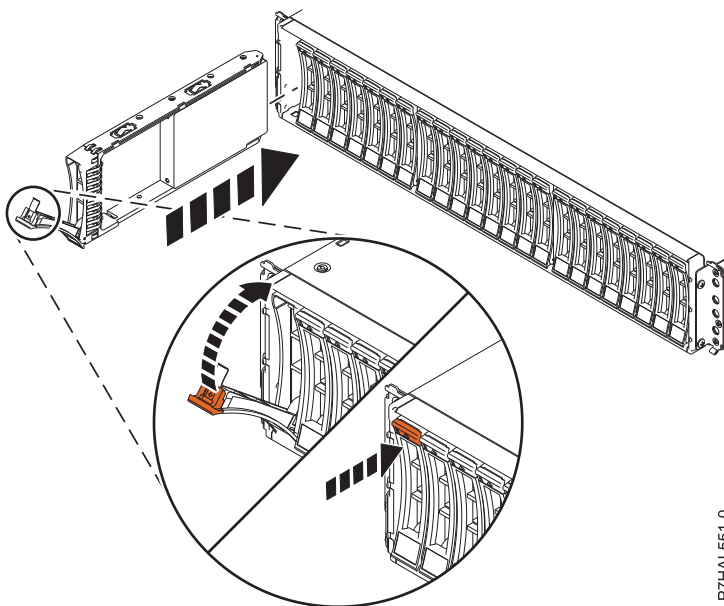

Figure 19. Installing or replacing the disk drive in the disk drive enclosure
3. With the handle in the unlocked position, as shown in Figure 19, support the bottom of the drive as you align it with the guide rails in the enclosure.
7. Lock the drive by rotating the bay handle (A) in the direction that is shown in Figure 19.